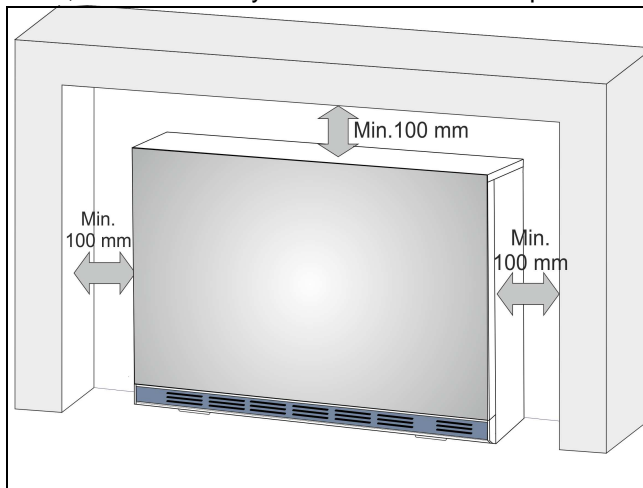

Fig.3: Minimum clearances
- You must comply with the minimum spacings described. (Fig. 3)